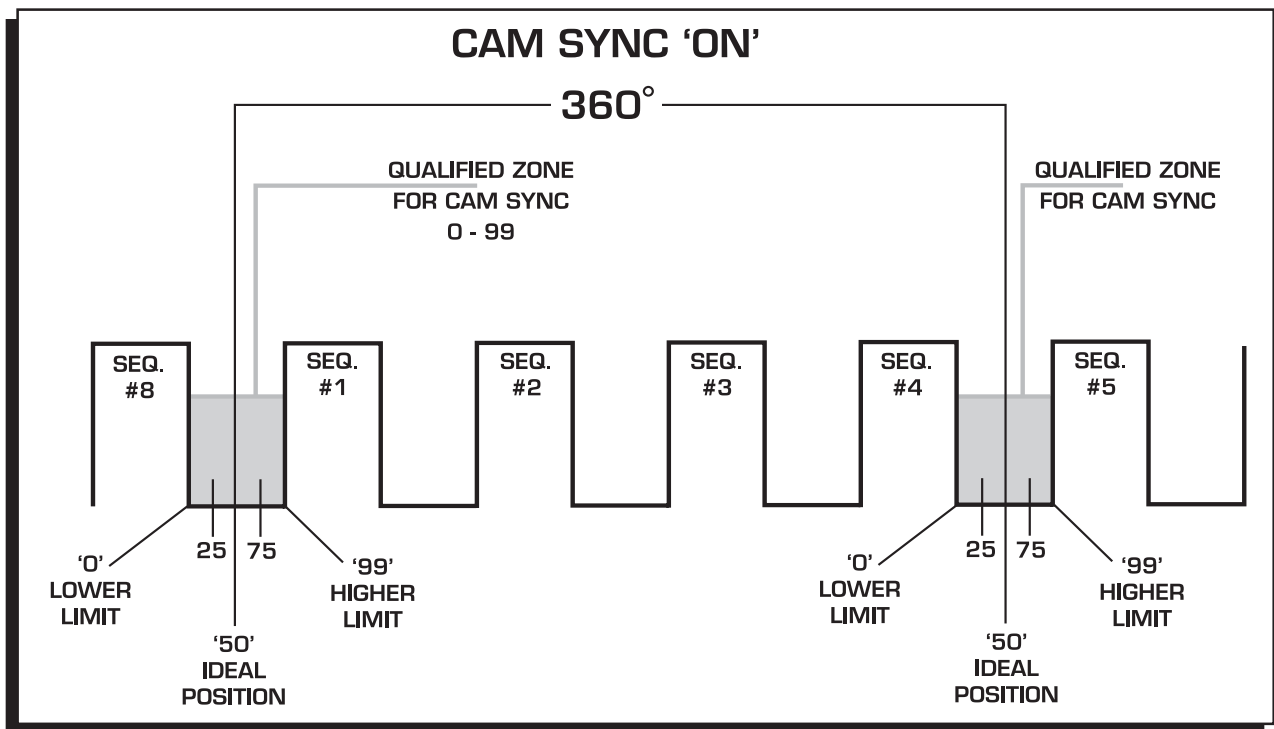

Figure 4 Cam Sync Signal.
6. With the engine running, the Cam Max and Cam Minimum will display values between 0 and 99. The optimum setting is approximately a value of 50. Slowly rotate the distributor plug until there is an even difference from 0 on the Max and 99 on the Min (Figure 4). However, if you are unable to achieve a 50-50 reading, a value of 25 Min and 75 Max will work. The goal is to have the Min and Max values in an equal area of the cam sync zone.